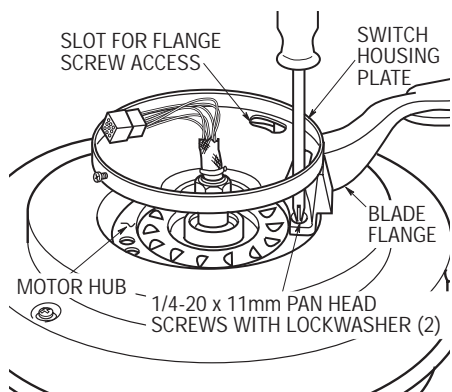

Figure 7
- 10. Align two of the threaded holes in the motor hub with the two slots in the switch housing plate (Figure 7). Position the blade flange on the motor hub so that the screws in the blade flange align with the two threaded holes in the motor hub. Tighten the two screws securely. Repeat this procedure for the remaining four blade assemblies.